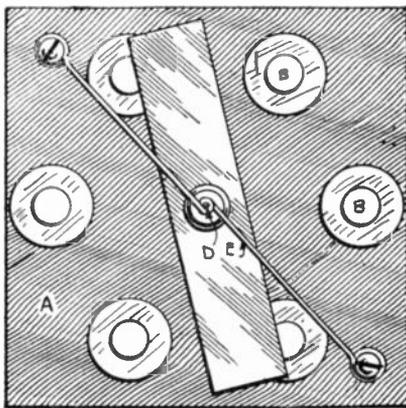

FIG. 80
34. We will now take up three-phase current motors. An extremely simple form of one is shown in Figs. 80 and 81. It consists of a base, A, on which are mounted six electromagnets, arranged in a circle, care being taken that the windings on these are all in the same direction. At the center of the circle formed by the electromagnets is placed a piece of tin, C, with a center-